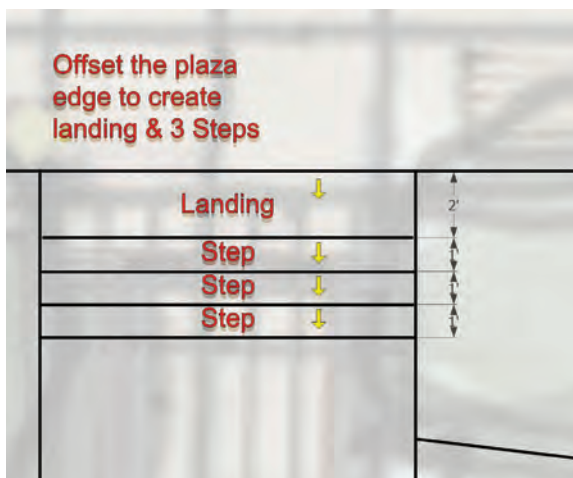

Fig. 7-17: Move/Copy the steps and landing at the bottom entry (bottom of Rectangle 6).
- a. Move/Copy the edges at the plaza's bottom (Rectangle 6) and east (Rectangle 7) entries to create steps (Fig. 7-17).